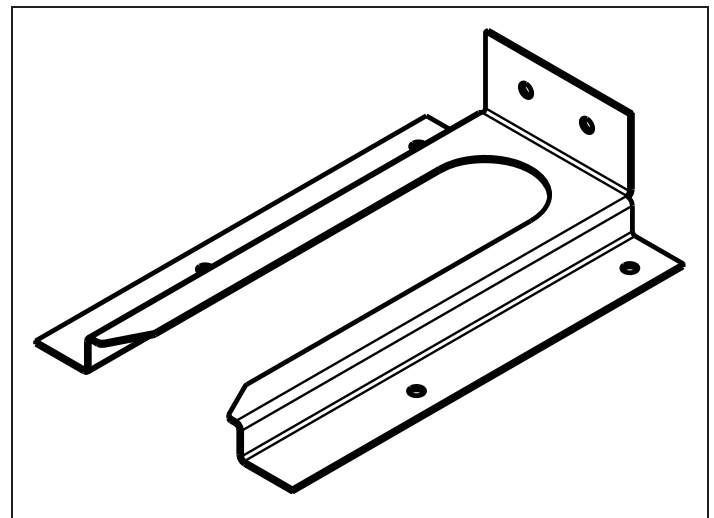
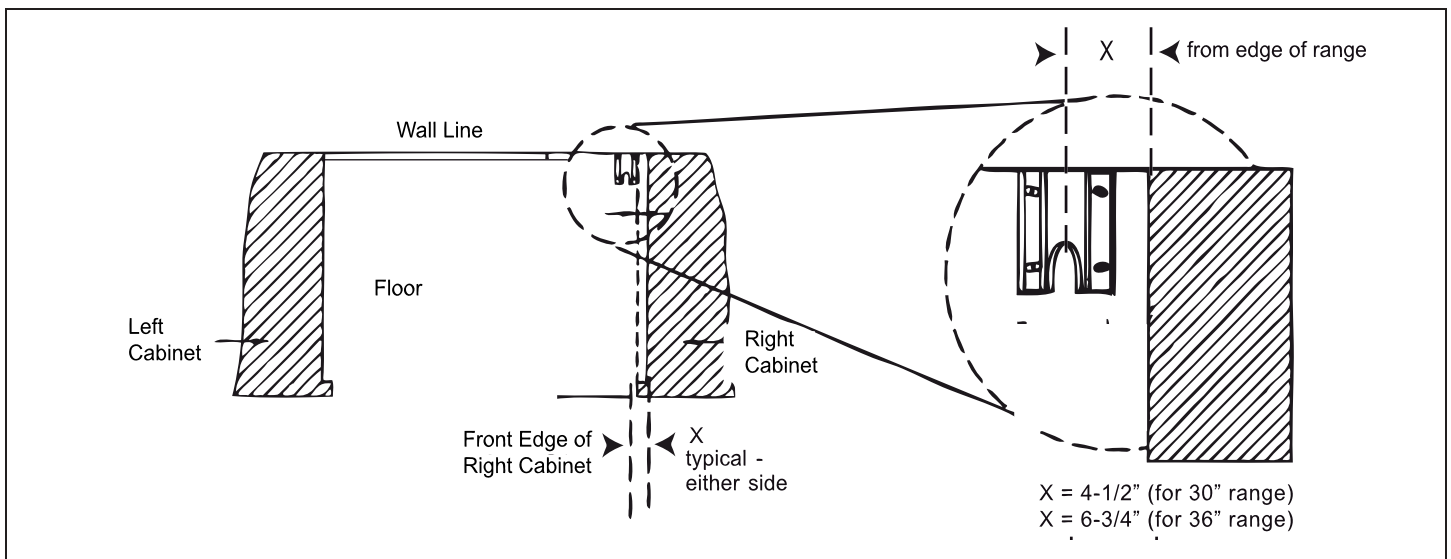

Figure 7: Anti-tip Bracket
Figure 8: Placement of Anti-Tip Bracket (Top View)
See Figure 7 and Figure 8.
1. Place bracket on floor in position shown in Figure 8 (Bracket may be used in either corner of the installation area).